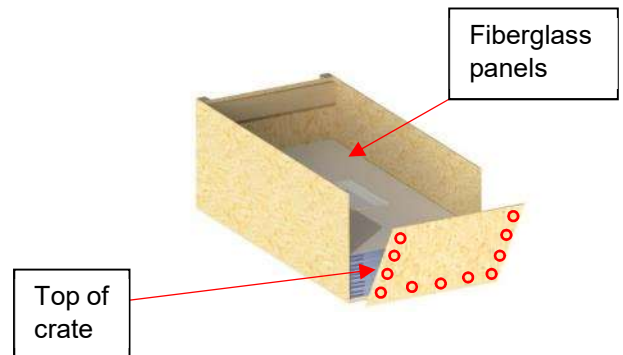

Figure 42
17) Unscrew the 11 Robertson #8-10 x 1.5" screws (four on each side and three at the bottom) holding the top of the crate. Then, remove the top of the crate (Figure 42).